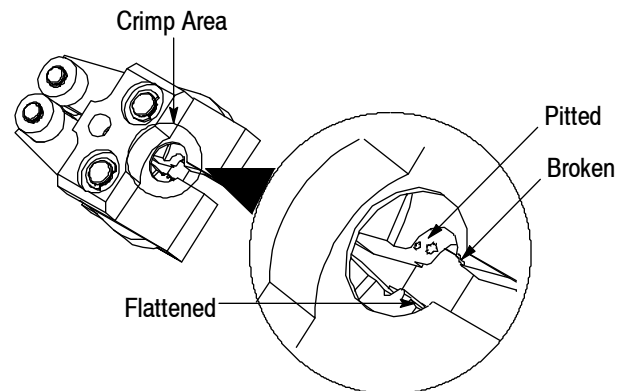

Figure 5
4. Inspect the crimp area for flattened, chipped, or broken areas. See Figure 5. Replace worn or damaged parts.